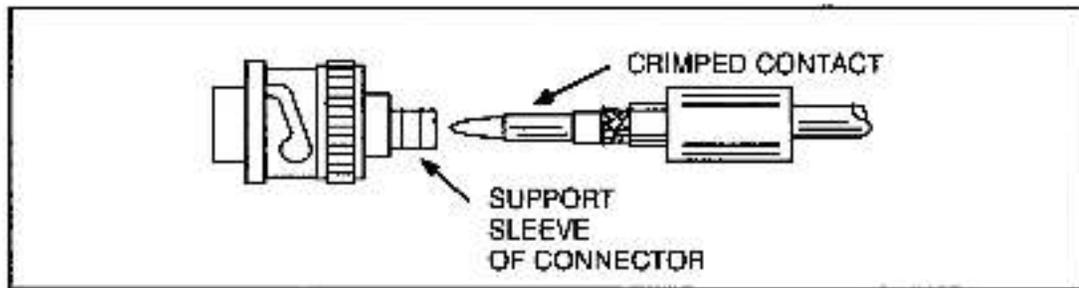

Figure 3.22 - Connector Installation Step 9 for RG-11/U Cable
- Step 9. Verify that the shield braid wire does not touch the center contact. Refer to figure 3.22.